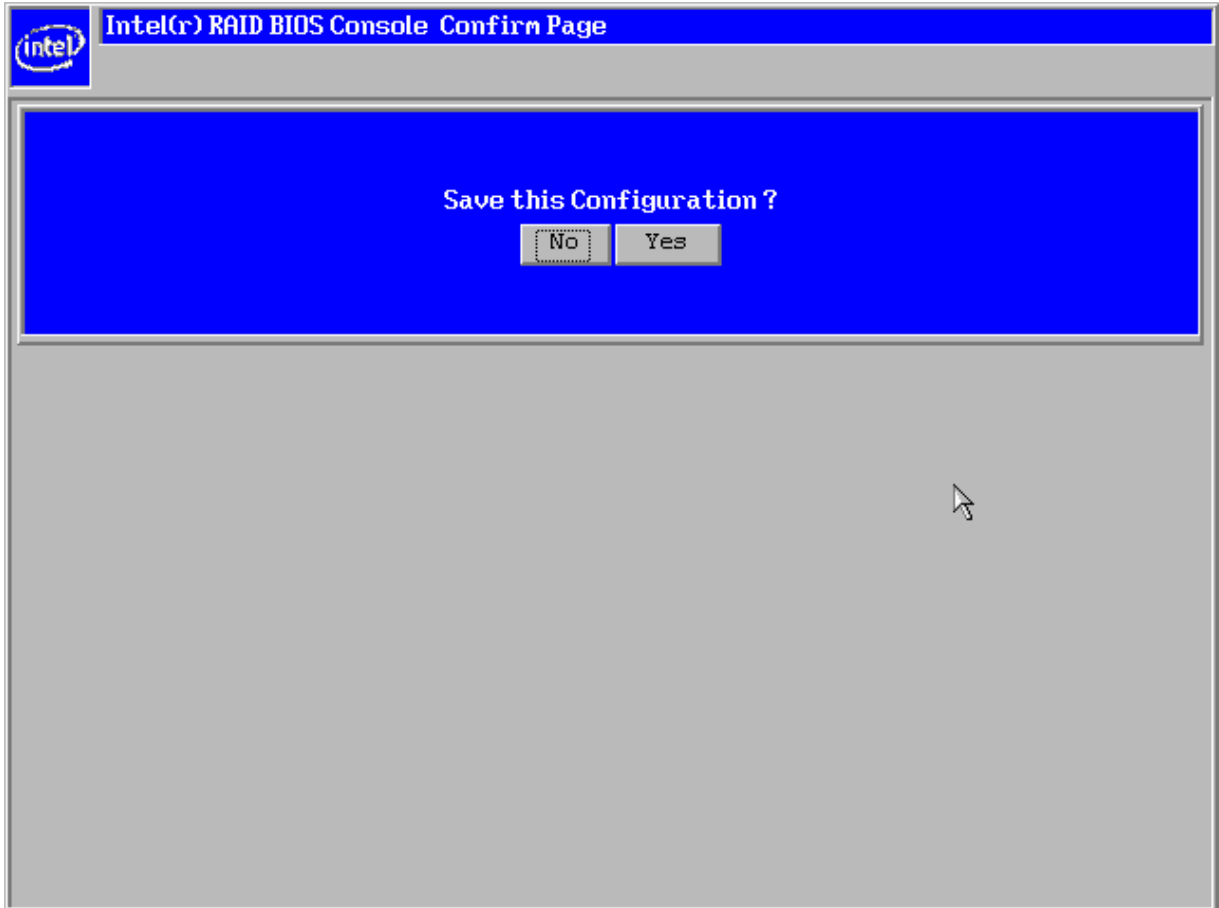

Figure 32. RAID BIOS Console Confirmation Page – Save Configuration
26. On the next screen (see Figure 32), click **Yes** in the warning dialog that appears to save this configuration.